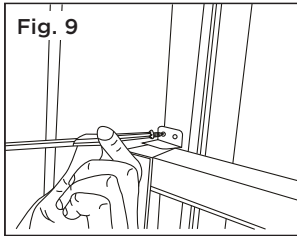

Fig. 9
- C. To secure lower sash in place, attach right angle sash lock with 3/4" (19 mm) or 1/2" (12.7 mm) screw as shown (Fig. 9).